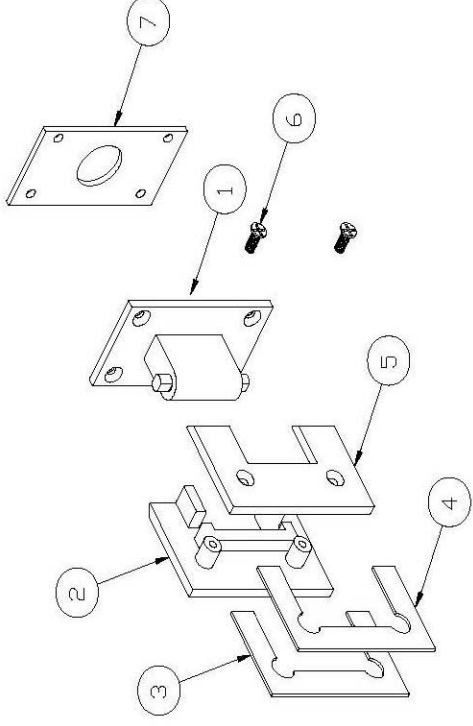
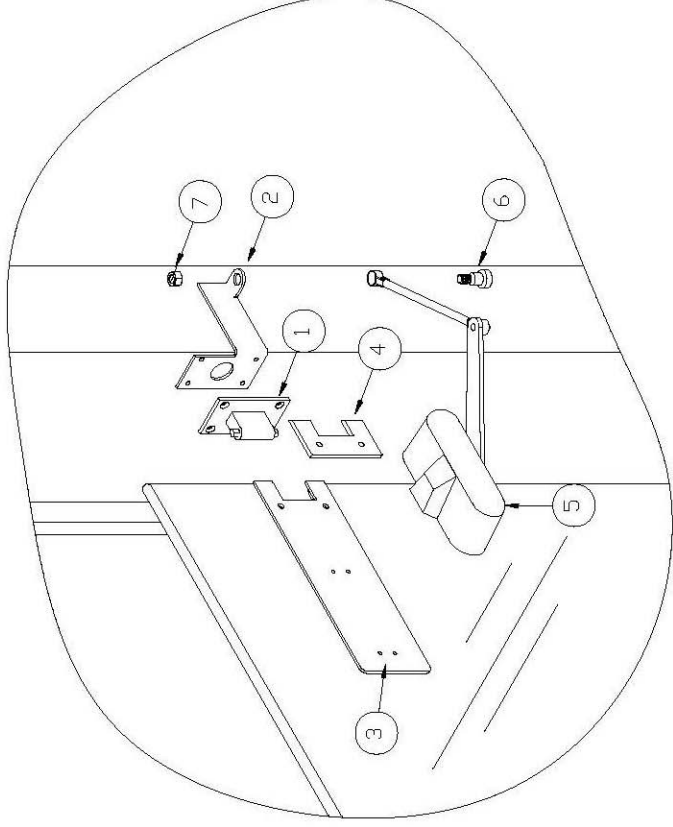

Figure 1
Figure 2
3. Attach new hinge supplied using 4 new 10-32 flathead screws supplied and new hinge spacer (Figure 1 #7) to bottom hinge mounting holes (be sure to always
- place rubber gaskets Figure 1 #3 and #4 between glass and metal contact surface), (making sure that the piece with the two screw heads (Figure 1 #5) are facing the inside of the vault)
4. Attach new hinge supplied using 4 new 10-32 flathead screws supplied and Daygate closer hinge spacer (Figure 2 #2) to top hinge mounting holes (making sure that the piece with the two screw heads (Figure 1 #5) are facing the inside of the vault)
5. (Left swing shown make sure tab with hole (Figure 2 #2) is in the downward position, for right swing doors make sure tab with hole (Figure 2 #2) is in the upward position) (be sure to always place rubber gaskets Figure 1 #3 and #4 between glass and metal contact surface)
6. Now that both hinges are attached to the Jamb of Frame remove the two screws and plate from hinges, Figure 1 #5 and #6 and gasket Figure 1 #4
7. Replace Daygate (be sure to always place rubber gaskets Figure 1 #3 and #4 between glass and metal contact surface)
8. Attach Bottom hinge plate and screws Figure 1 #5 and #6
9. Attach Top hinge plate over Daygate closer mounting plate Figure 2 #3 (once again being sure to always place rubber gaskets Figure 1 #3 and #4 between glass and metal contact surface) using 2 new M6 x 20 flathead screws supplied
10. Attach Daygate Closer Figure 2 #5 to Daygate mounting Plate Figure 2 #3 (using screws supplied)
11. Attach Closer link arm to hinge spacer bracket Figure 2 #2, using shoulder bolt Figure 2 #6 and nut Figure 2 #7 (It may be necessary to relocate link arm from top to bottom of closer depending on swing Figure 2 #5)